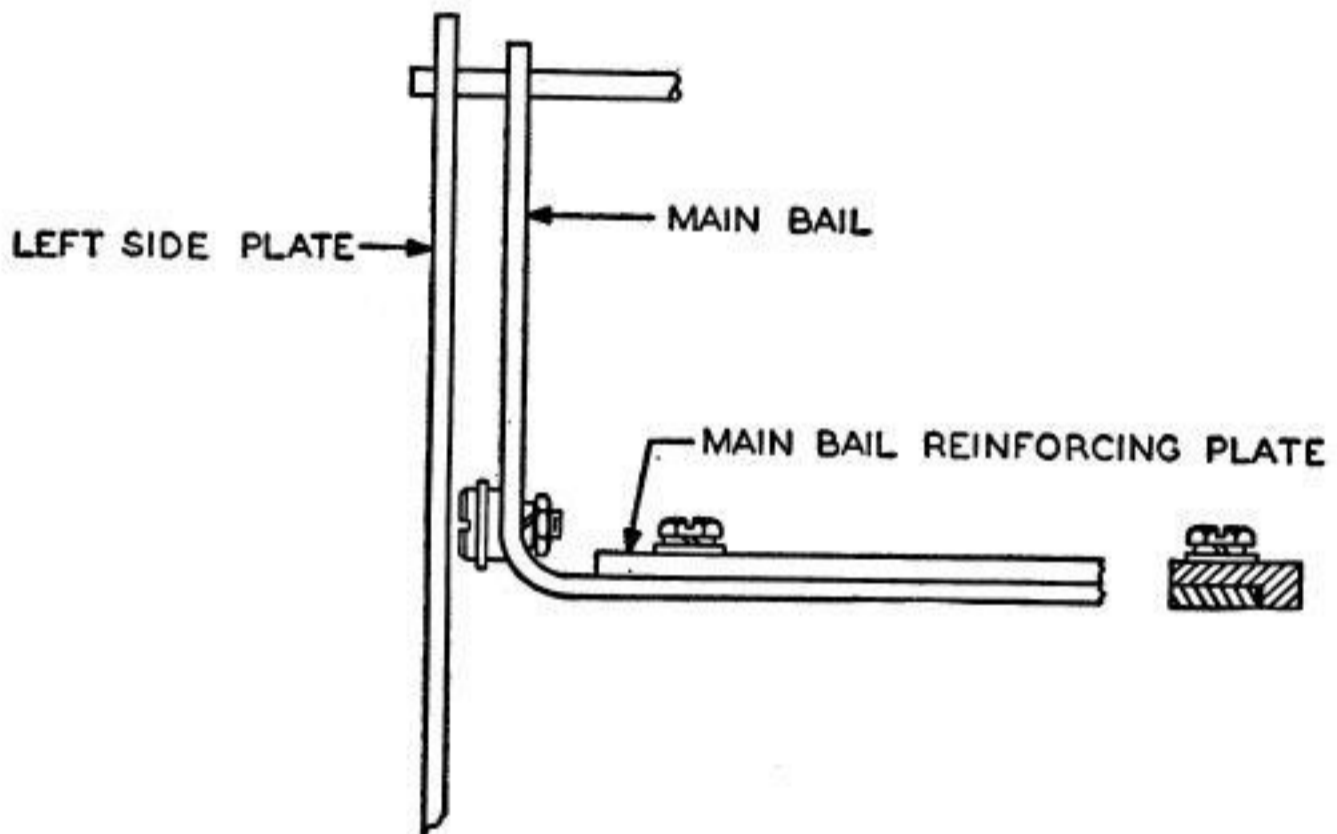

Fig 6
3.11 **Mainbail-Reinforcing Plate:** The horizontal leg of the mainbail-reinforcing plate should contact the lower edge of the mainbail across its entire length. **Fig 6**